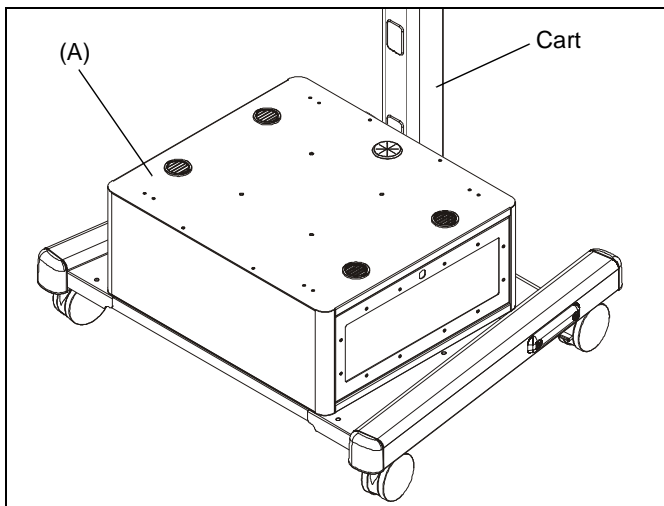

Figure 5
6. Tighten two 5/16-18 x 1/2" square head cap screws (H) from Step 1 further into cart until base support is secured to cart. (See Figure 5)
1. Place storage cabinet (A) on top of base support. (See Figure 5)